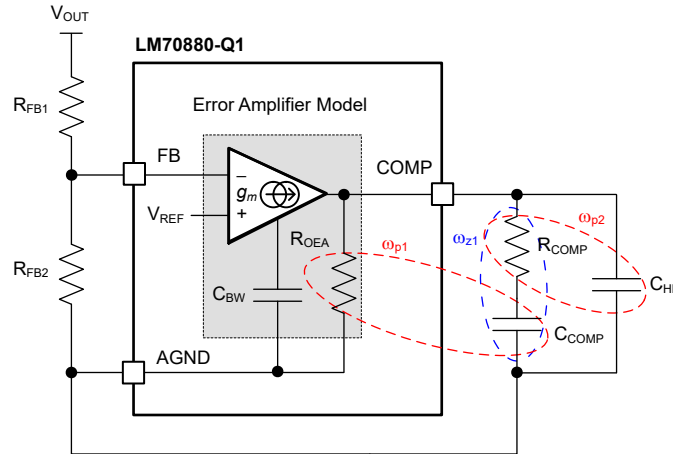

Figure 8-3. Error Amplifier and Compensation Network
A Type-II compensator using a transconductance error amplifier (EA) is shown in Figure 8-3. The dominant pole of the EA open-loop gain is set by the EA output resistance, R_{OEA} , and effective bandwidth-limiting capacitance, C_{BW} as shown by Equation 23.
The EA compensation components create a pole close to the origin, a zero, and a high-frequency pole. Typically, $R_{COMP} \ll R_{O-EA}$ and $C_{COMP} \gg C_{BW}$ and C_{HF} , so the approximations are valid. Figure 8-3 circles the poles in red and the zero in blue.